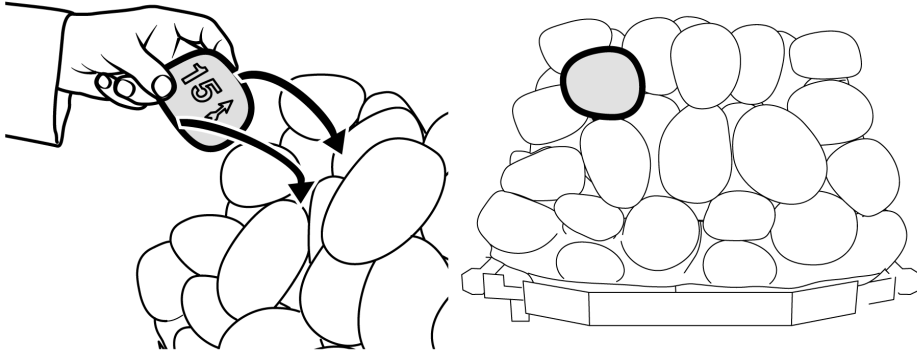

Figure 40 Fourth row "Pebble 15"
25. Hold pebble '15' upright with the arrow pointing to the top. Locate pebble '15' as shown in figure 40.